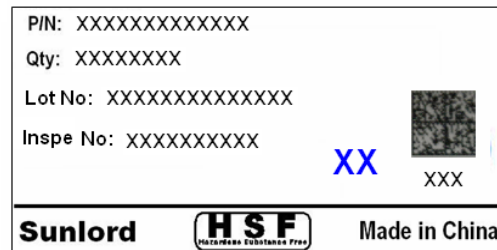

Fig.9.2.3-2B
2) Marking on outer case (see **Fig.9.2.3-3~5**):